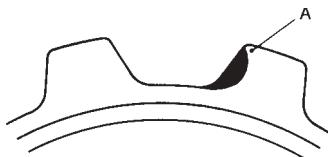

Figure 15-7: Sprocket Wear
1. Cut section (A) shown in Figure 15-7 with a grinder.